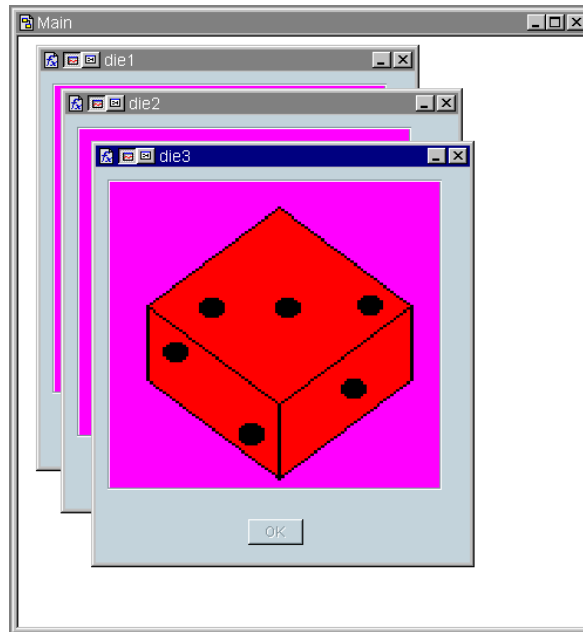

Figure 10-20. Early Stage in the Dice Program
6. Create two more `UserFunctions` by selecting `Clone` in the `die1` object menu. The new `UserFunctions` appear automatically as `die2` and `die3`. Change the picture objects to `die2.gif` and `die3.gif` respectively. Check all the settings of the new functions to make sure they match `die1` except for the names and bitmaps. The program should look like Figure 10-20. Iconize the function windows.